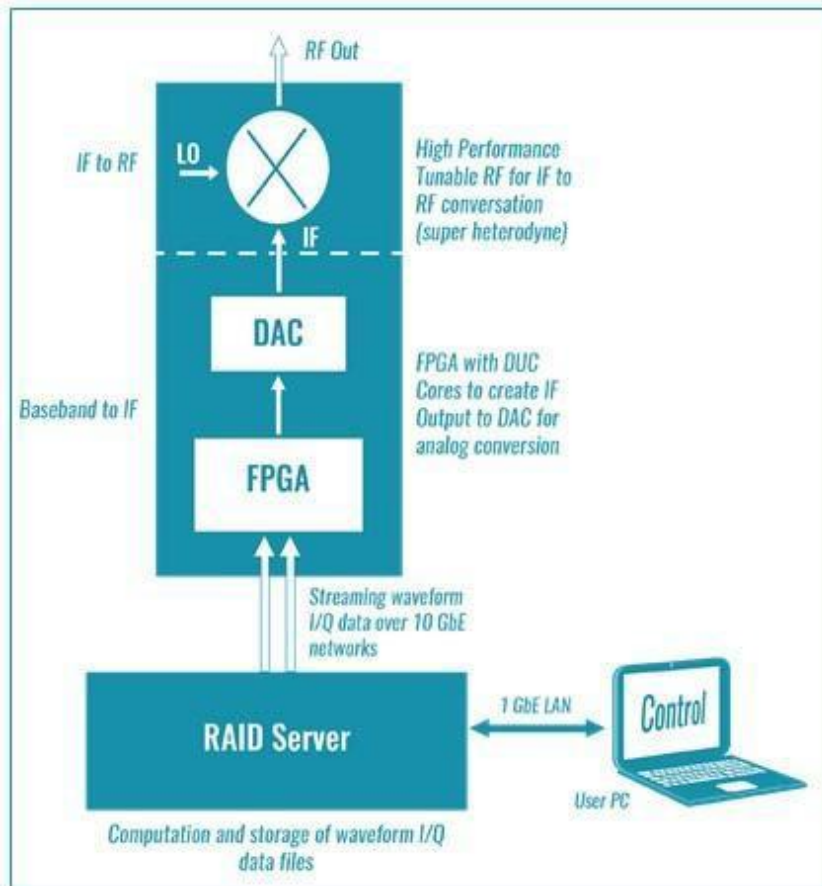

Figure 2: MRSE Block Diagram
Figure 2: MRSE-5000-4T System can be used for 4-port DF Testing. Multi-port & Multi-band DF testing. MRSE-5000-16T system shown above right uses four (4) MRSE-5000-4T systems. It can be configured for 1x16T, or 2x8T, or 4x4T as discussed. All 16 channels are operated phase coherently for 16-port configuration. For 8- and 4-port configuration, each 8 and 4 channels are operated phase coherently.